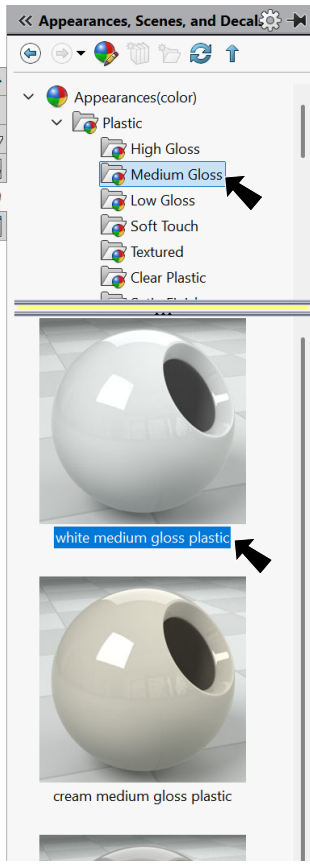

Fig. 70
- Step 2. In the Appearances Task pane, expand **Plastic**, click **Medium Gloss** and in the lower pane select **white medium gloss plastic**, **Fig. 70**.